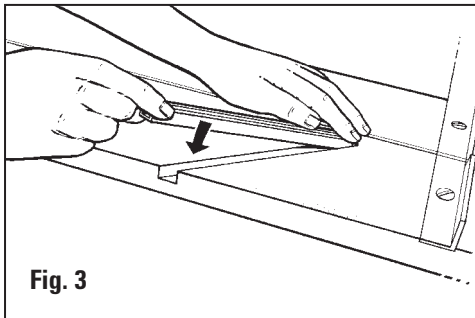

Fig. 3
1. Press each aluminum mat guide channel into board slots with rounded end towards the Guide Rail. Insert the four small guide rail channel screws from the **UNDERSIDE** of the board and tighten. **Fig. 3**
4. Place the mat color side down under the Guide Rail, against the Mat Guide and down against the Squaring Arm. **Fig. 3**
4. Using a pencil, mark a line along the full length of the mat board using the guide rail as a guide. **Fig. 3.** Turn the mat 1/4 turn to the right before cutting.
3. Using a pencil, mark a line along the full length of the mat board using the guide rail as a guide. **Fig. 3.** Turn the mat 1/4 turn to the right before cutting.
5. Pull the Straight Cutting Head until the bottom scribe line lines up with the bottom border line. Repeat until all borders are cut. **Fig. 3**